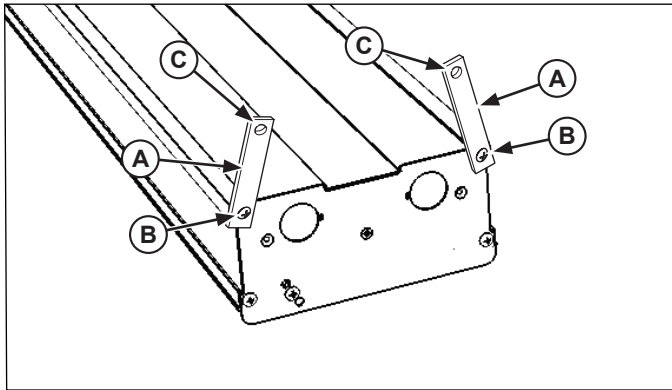

Figure 4. Chain Mount Installation.
1. The unit is shipped with mounting tabs (A) located on each end of the unit. For units that are longer than 72", three (3) mounting points consisting of the two ends and the center of the unit must be used. See Figure 4.
2. Loosen the screws (B) holding the mounting tabs in place but do not remove. Rotate tabs (A) to an upright position and the attach chain to holes (C). The chain must support each side of each end of the unit evenly.
5. Tighten screws (B) to secure the mounting tabs.